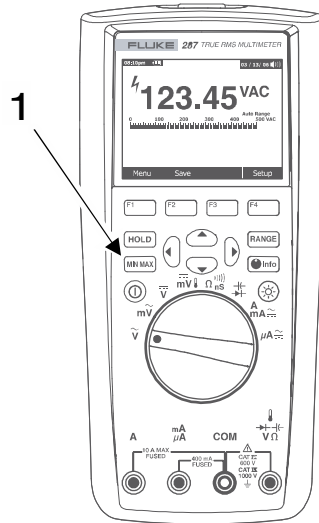

Figure 17. MIN MAX Button
2. Press the MIN MAX (Figure 17., Item 1) button to select the MIN MAX mode. This will start the MIN MAX recording session.
6. To exit the recording session, press the MIN MAX (Figure 17., Item 1) button again or the softkey labeled Close (F4).